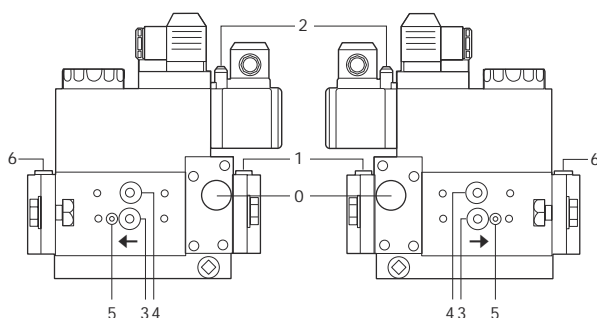
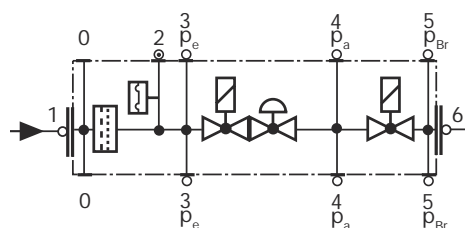

Fig. 25
Fig. 26
- Clean and examining the gas filter cartridge, if necessary replace it (Fig. 25 on).
- Change the filter if the pressure difference between pressure connection 1 and 3 (Fig. 25-Fig. 26) is  $\Delta p > 10$  mbar.
- Change the filter if the pressure difference between pressure connection 1 and 3 (Fig. 25-Fig. 26) is twice as high compared to the last check.